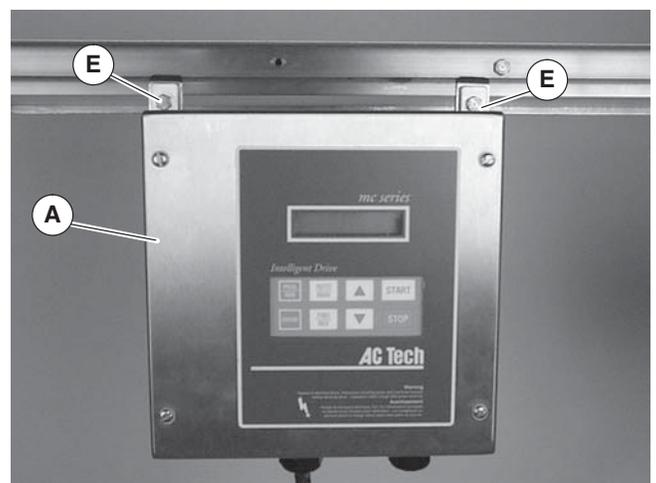

Figure 5
3. Attach controller (Figure 5, item A) to conveyor with screws (E).